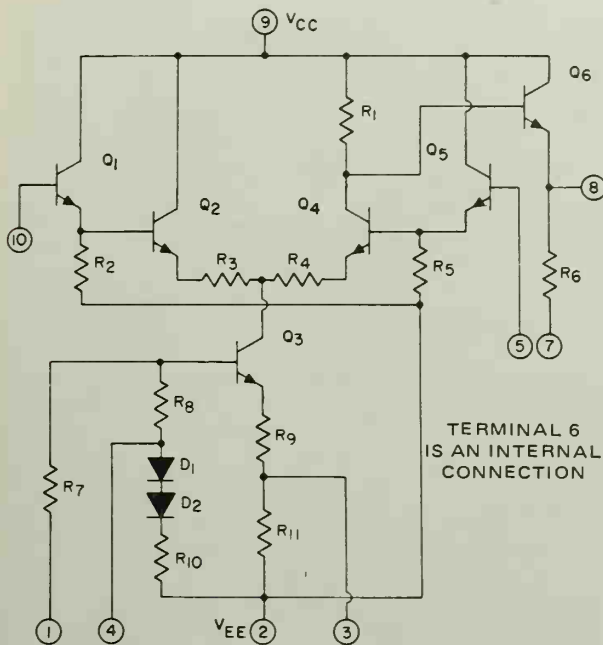

Fig. 19-1. Schematic diagram of CA3002 integrated circuit if amplifier. (RCA)
An integrated circuit (IC) is a packaged electronic circuit. It usually contains transistors and possibly diodes, resistors or capacitors. These components are connected to form a complete device, such as an amplifier or detector and limiter. Usually, integrated circuits are made into a very small piece of silicon that may be referred to as a "chip." Fig. 19-1 shows a schematic diagram of an integrated circuit housed in a package about .3 in. (7.6 mm) by .18 in. (4.6 mm).